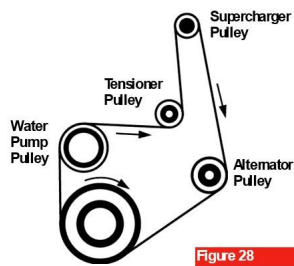

Figure 28
6. Place the drive belt over the water pump pulley, the crankshaft pulley and the alternator pulley (figure 28). **Make sure the belt is on the correct sides of and properly seated in the grooves of each pulley.**